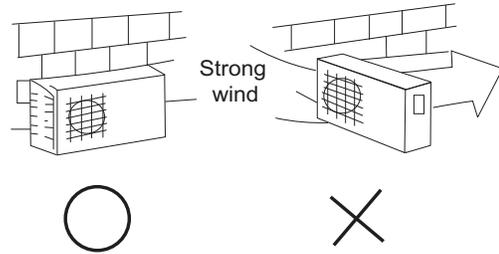

Fig. 15 – High Wind Installation
- A location which is convenient to installation and not exposed to strong wind. If unit is exposed to strong winds it is recommended that a field-fabricated wind baffle be used. (See Fig. 15)